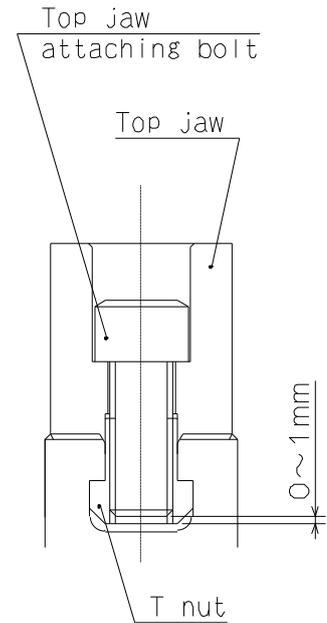

Fig.11
- If the screw-in depth of the jaw attaching bolt to the T nut is shallow, the T nut will break, and this is dangerous as the jaw and work will fly out. If the attaching bolt is too long and comes out from the bottom of the T nut as well, this is dangerous as the jaw and work will fly out since the top jaw is not fixed. Therefore, the overall length of the jaw attaching bolt must be approximately 0 to -1mm from the bottom of the T nut (Refer to Fig.11).